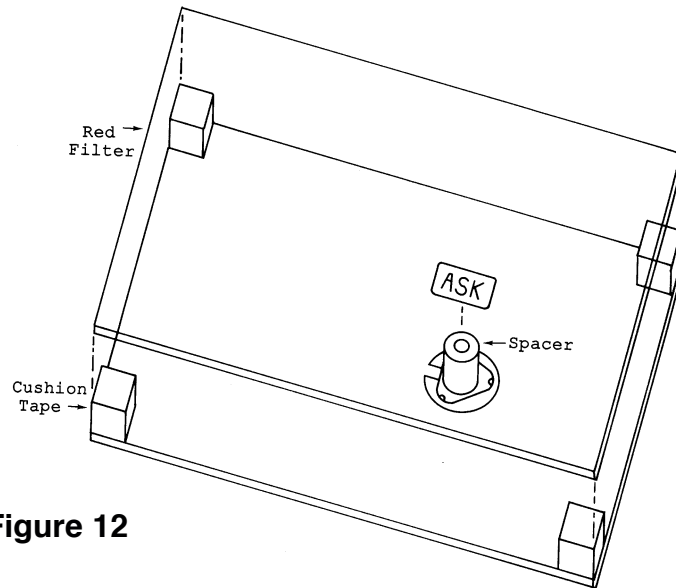

Figure 12
- ❑ Stick the 7/32" spacer onto the dimple switch as shown in Figure 12.
- ❑ Use scissors or single edge razor blade to cut the thick cushion tape into four 1/4" pieces. Peel off one of the protective layers and stick the tape to the corners of the PC board as shown in Figure 12.
- ❑ Remove the remaining protective backing from the cushion tape. Align the word ASK on the red filter with the 7/32" spacer and stick the filter to the cushion tape as shown in Figure 12.